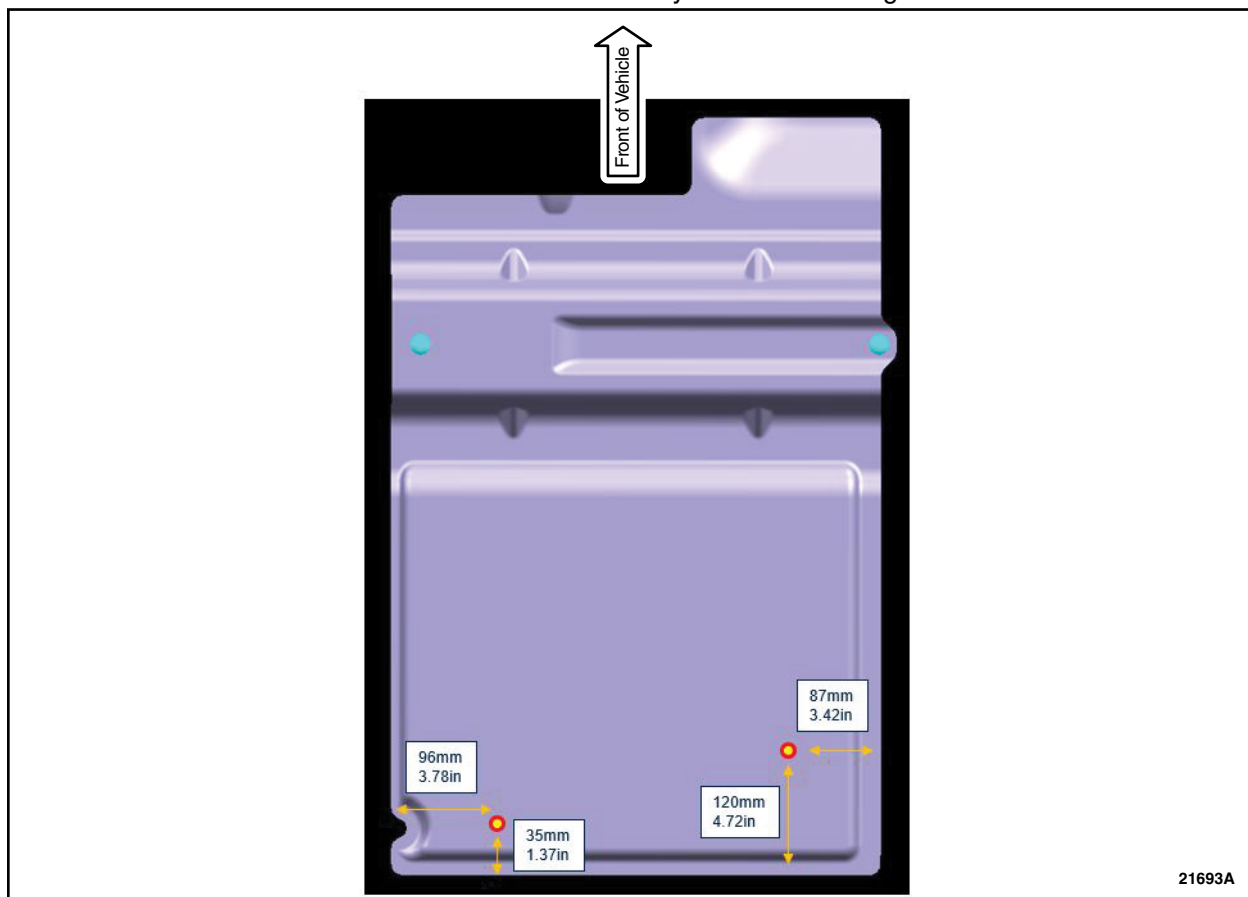

FIGURE 11
9. Measure and mark the two locations on the underbody insulator. See Figure 11.